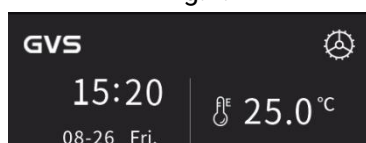

Fig.2.3
④ **When external temperature is configured, there is an "E" at the upper right corner of the icon; When internal temperature is configured, there is no "E" at the upper right corner of the icon, as shown in Fig.2.3;**